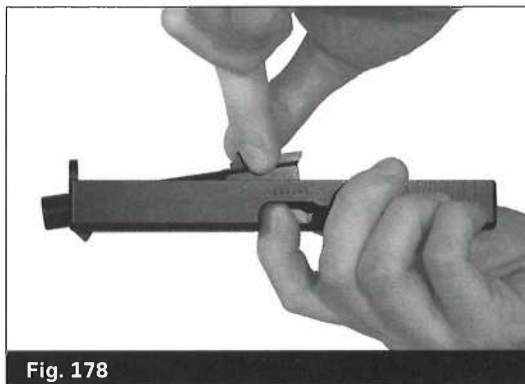

Fig. 178
- Grasp the barrel by the bottom lug and lift it clear of the slide. (Fig. 178)